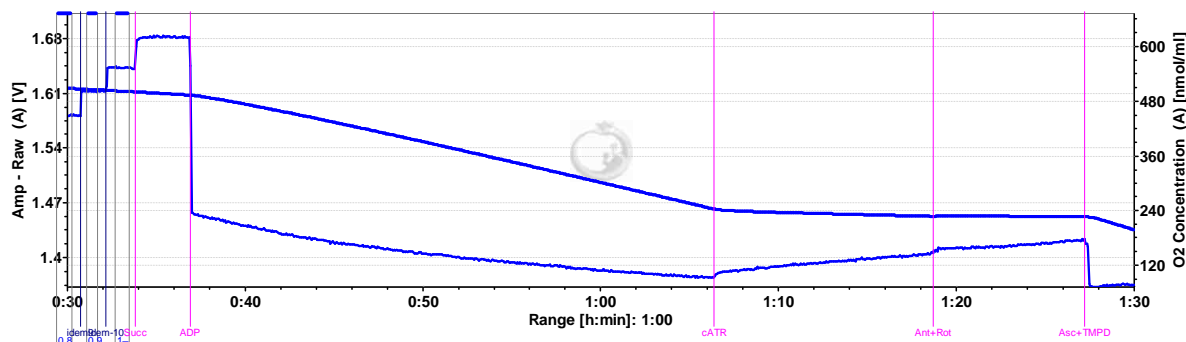

Figure 3.
- In the datlab file, select layout with both Y1 as “Amp-Raw (V)” and Y2 as “O2 Concentration[nmol/ml]” (Figure 3)